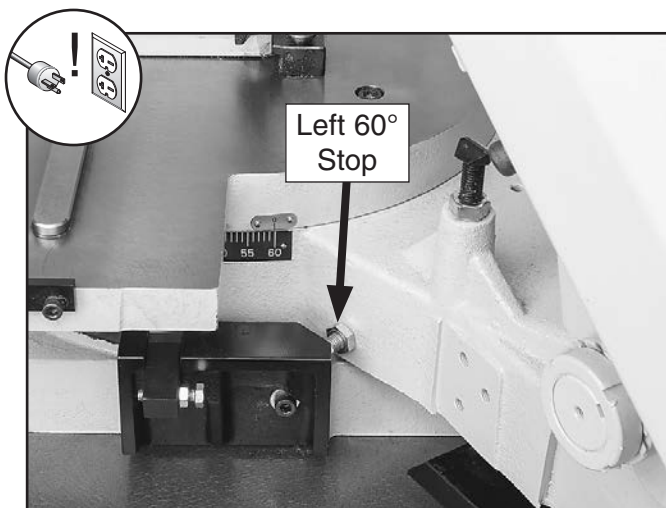

Figure 99. Example of 60° stop bolt contacting base (left 60° stop shown).
3. Adjust headstock angle left or right until base contacts left or right 60° stop bolt (see **Figure 99**).